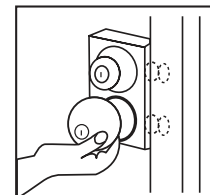

FIGURE 5
5. Align the **lock bolt holes** in the **lock-side jamb** with the extended lock bolts, making sure the jamb is vertically true (plumb) (Fig. 5).